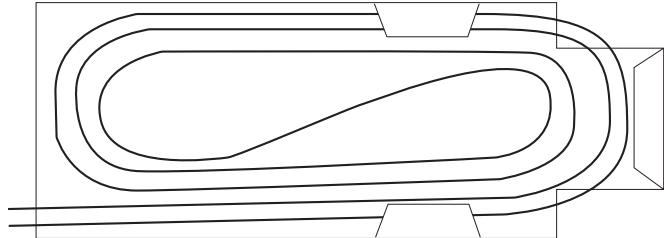

Figure 6
9. Store the slack ribbon and uncut ribbon loops in the FOSC ACC D basket as shown in Figure 6. Secure in place with tie wraps.